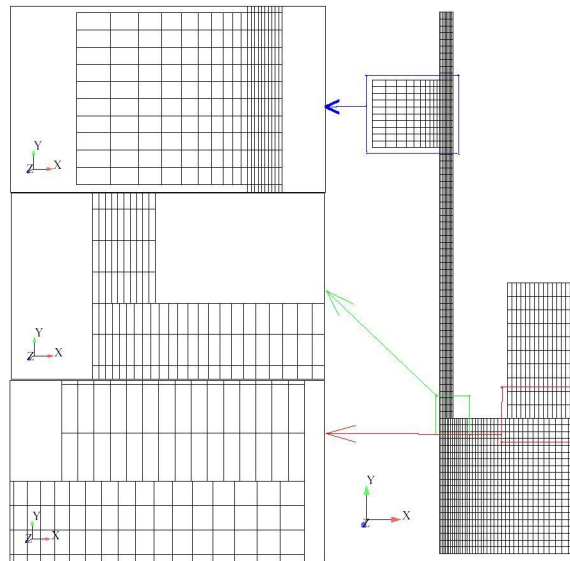

Figure II.2: View of the full domain mesh with zoom on the joining regions
Figure II.2 shows a global view of the mesh and some details of the joining zones, to show that *Code\_Saturne* can deal with hanging nodes. This mesh is composed of 1650 cells, which is very small compared to those used in real studies. This is a deliberate choice so that tutorial calculations run fast.
**Coordinates system:** cartesian, origin on the edge of the main pipe at the outlet level, on the nozzle side (figure II.2)